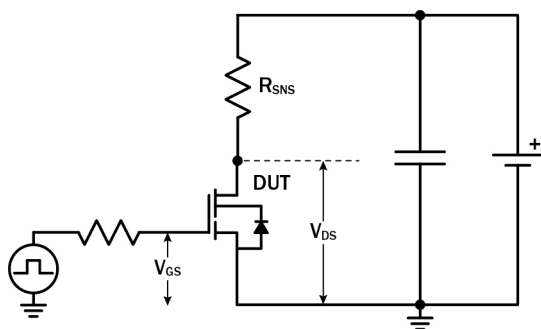

Figure 18. Dynamic $R_{DS(on)eff}$ Test Circuit
- Dynamic R_{DS(on)} value; see Figures 18 and 19 for conditions